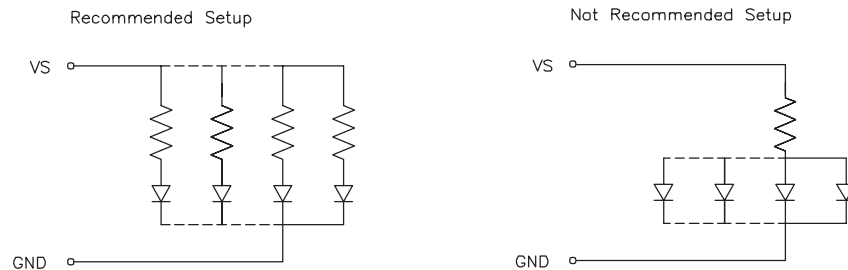

Fig. 10
5. When LEDs are mounted in a parallel configuration, there should be individual current-limiting resistors in series with each LED. Refer to below diagram (Fig.10) for an example of a recommended set up.